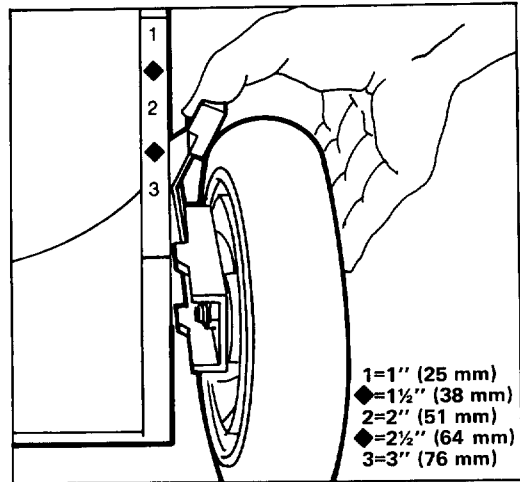

Figure 13
2. For easier adjustment, lift housing up so wheel is off ground. Squeeze adjusting lever toward wheel and move to desired setting (Fig. 13). Assure pin on adjusting lever engages notch in housing. Adjust all wheels to the same setting.